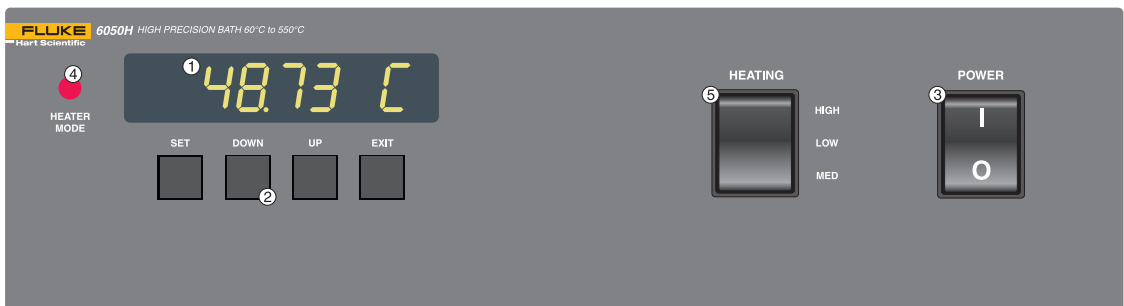

Figure 3 Front Panel Features
In the following discussion and throughout this manual a button icon around the word SET, UP, EXIT or DOWN indicates the panel button while the dotted box indicates the display reading (see Figure 3 on page 23). Explanation of the button or display reading are to the right of each button or display value.
With the bath power switch off (see Figure 3 on page 23), plug the bath into an AC mains outlet of the appropriate voltage, frequency, and current capacity. See Section 3.1, Specifications, for power details. A separate ground connection is provided and required to permanently connect the instrument to earth ground for added operator safety.
The following controls and indicators are present on the controller front panel (see Figure 3 below): (1) the digital LED display, (2) the control buttons, (3) the bath on/off power switch, (4) the control indicator light, and (5) the heater power switch.
(1) The digital display is an important part of the temperature controller. It displays the set-point temperature and bath temperature as well as the various other bath functions, settings, and constants. The display shows temperatures in values according to the selected scale units °C or °F.
(2) The control buttons (SET, DOWN, UP, and EXIT) are used to set the bath temperature set-point, access and set other operating parameters, and access and set bath calibration parameters.
The front panel red/green control indicator (see Figure 3 on page 23) shows the state of the heater. The control indicator glows red when the heater is on and glows green when the heater is off. The indicator will pulse constantly when the bath is maintaining a stable temperature.
The bath temperature is controlled by Hart Scientific’s unique hybrid digital/analog temperature controller (see Figure 3 on page 23). The controller offers the tight control stability of an analog temperature controller as well as the flexibility and programmability of a digital controller.
Please refer to Figure 3 on page 23 for the operation examples in the following sections.